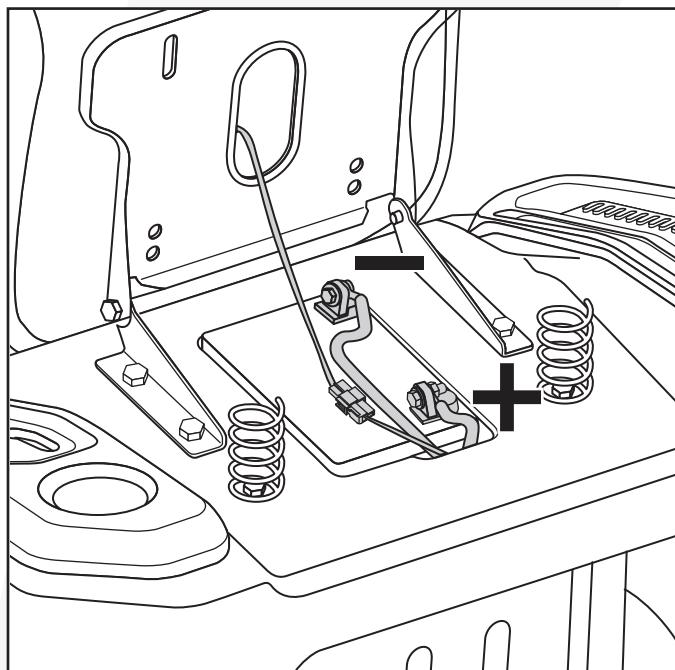

Fig. 34
2. Disconnect the NEGATIVE (-) cables from the battery first. (Fig. 34)